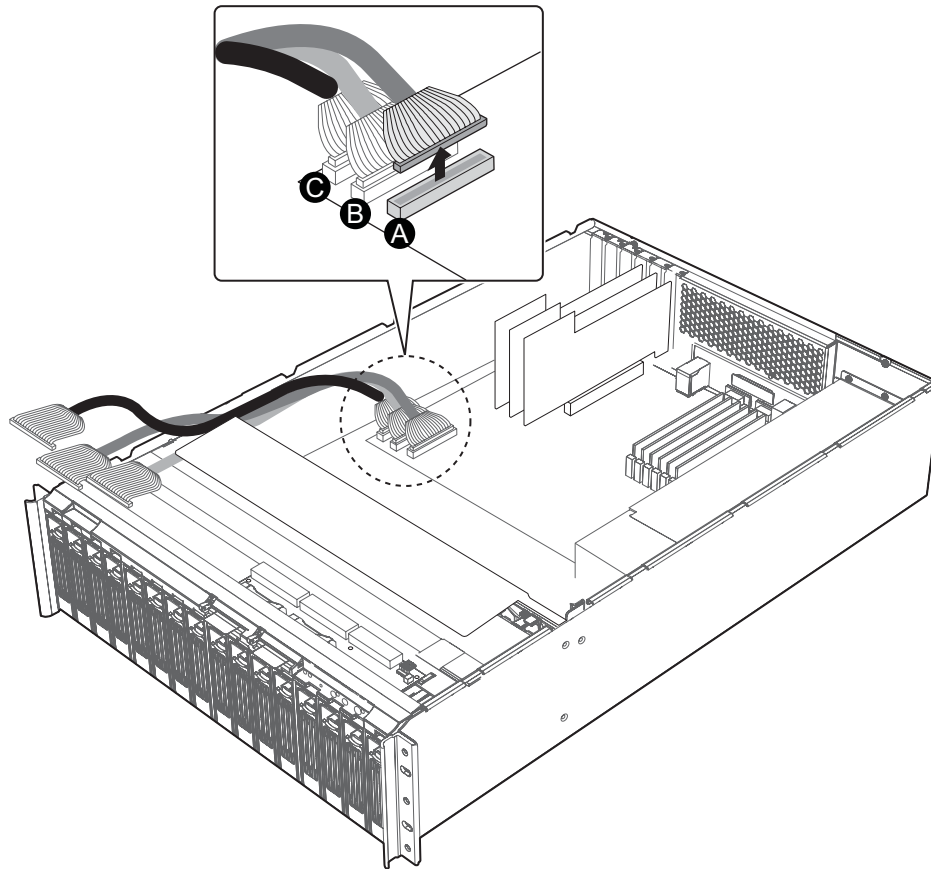

Figure 25. Removing Front Panel Cables from Baseboard
- A. Remove the Primary IDE Cable connector labeled J2J2 from its connector receptacle on the baseboard. See Figure 25.
- B. Remove the Secondary IDE Cable connector labeled J1J4 from its connector receptacle on the baseboard. See Figure 25.
- C. Remove the Front Panel Cable connector labeled J1J2 from its header on the baseboard. See Figure 25.